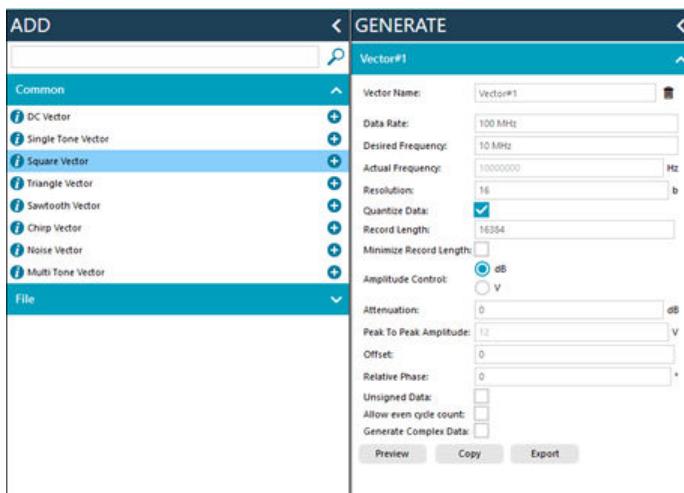

Figure 43. Common Vector Options
1. The **ACE Software** does not load the common vector options (see Figure 43), which is related to a bug in the **Core ACE Software**. The only known fix is to restart the **ACE Software**.